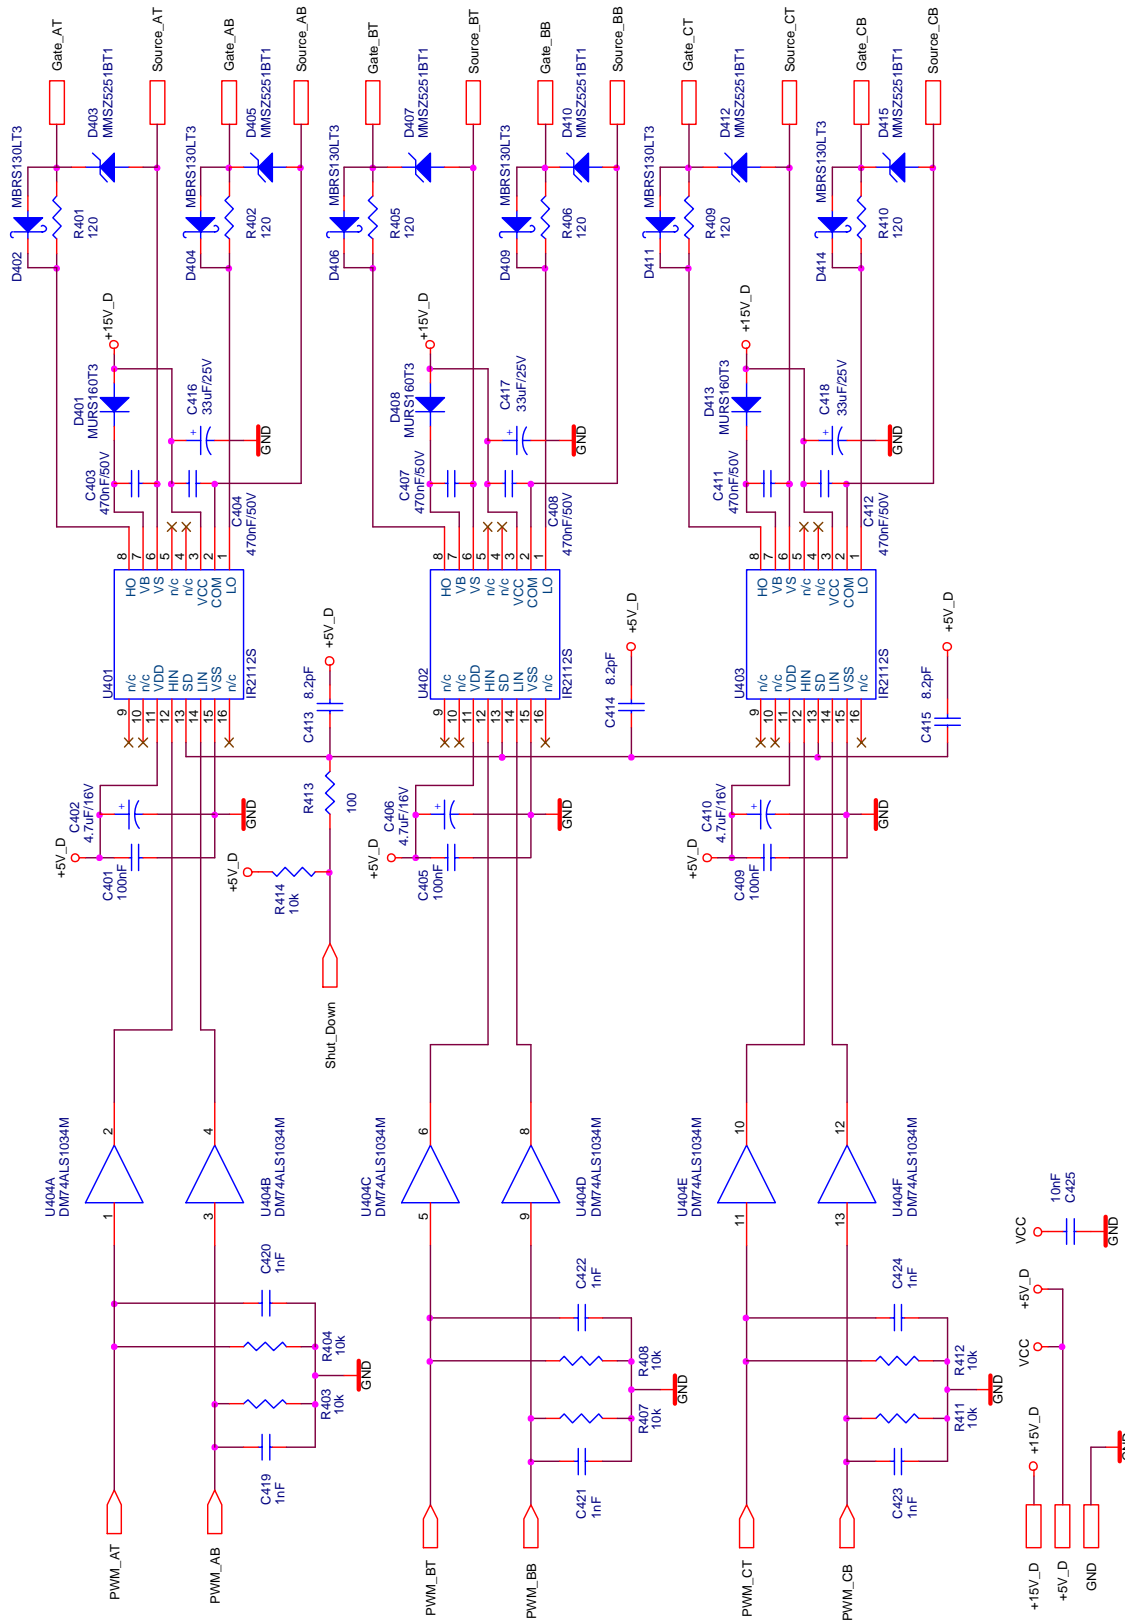

Figure 4-2. Gate Drive
- Output transistor gate drive is shown in Figure 4-2.